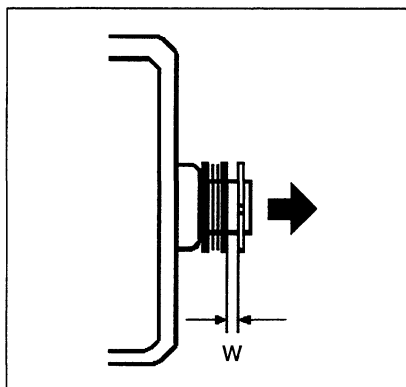

Fig. 15 'W' Dimension
- (iv) Push the armature shaft towards the commutator end of the machine, pushing the shim and thrust washer pack against the bearing bush flange. Measure the gap 'W' (fig. 15), which should be $2,25 \pm 0,25$ mm.